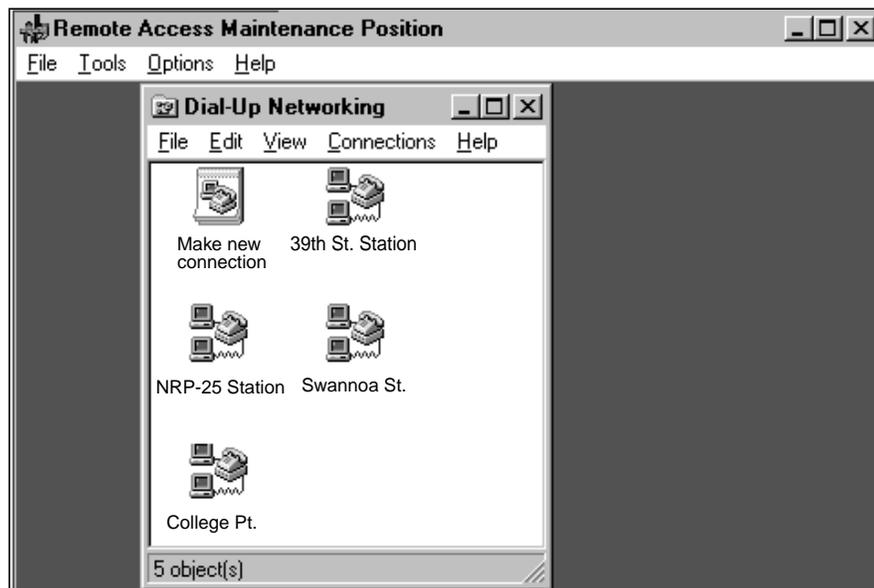

FIGURE 13. Dial-Up Networking display
2. Select DialUpNetworking from the drop-down list. This box shows the currently defined dial-up networking connections. (See Figure 13.)